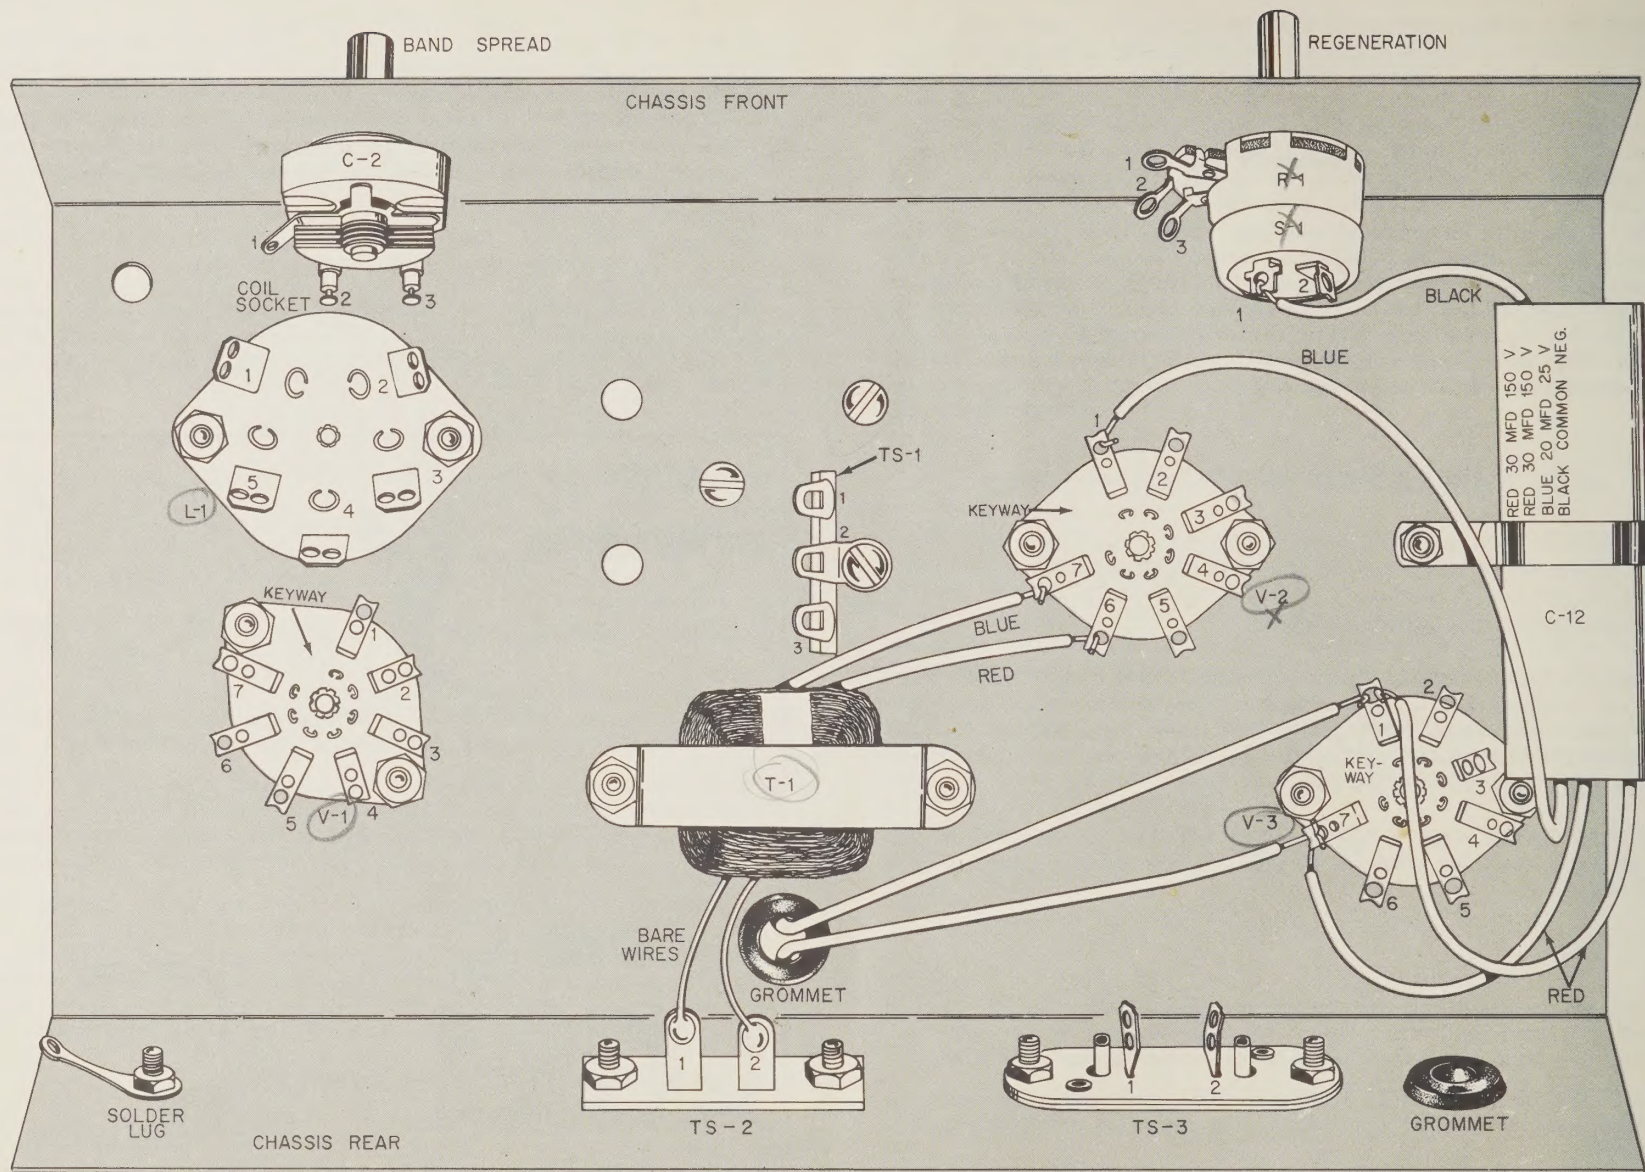
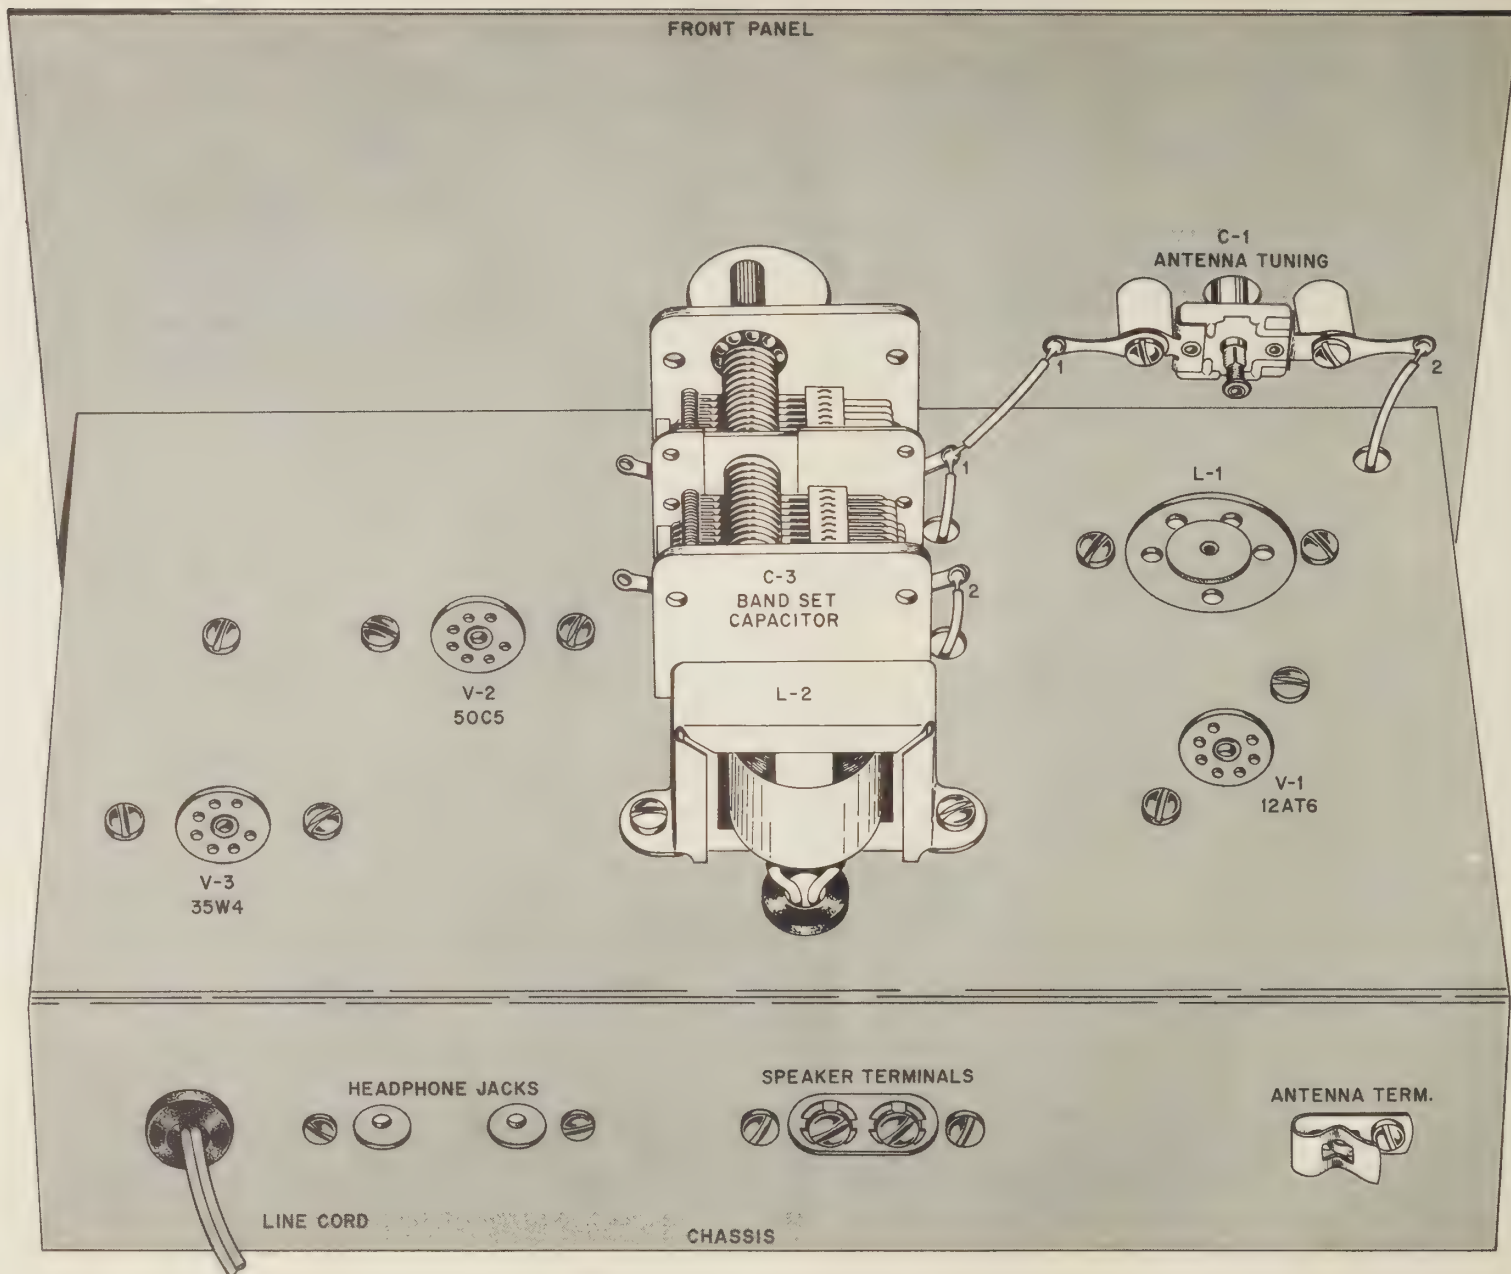

FIGURE 2. PARTS MOUNTING AND FIRST WIRING
FIGURE 7. TOP WIRING VIEW
### SEE FIGURE 2.
- ☑ Mount the coil socket, L-1, with two screws and matching nuts. Be sure to position the 5-terminals as shown in Figure 2.
T-1 and L-2 are mounted with the same two screws and matching nuts. T-1 is mounted as shown in Figure 2 and L-2 is mounted on the opposite side of the chassis with the two black leads next to the grommet. (See Figure 7 on Page 10).
### SEE FIGURE 7.